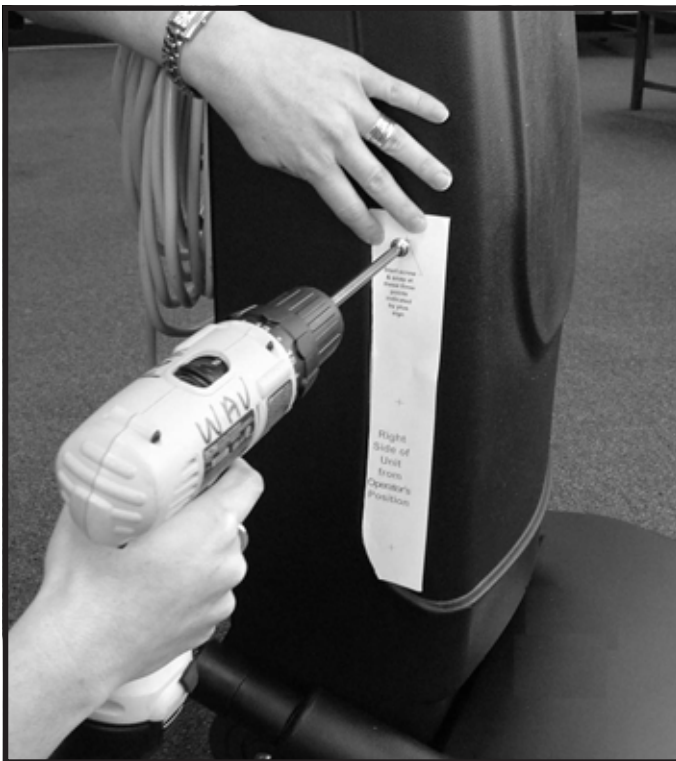

Figure 2
3. Use a powered drill to screw the self-tapping snaps into the handle at each “+” mark (Figure 2) Note: Do not over torque the screws as they can strip out